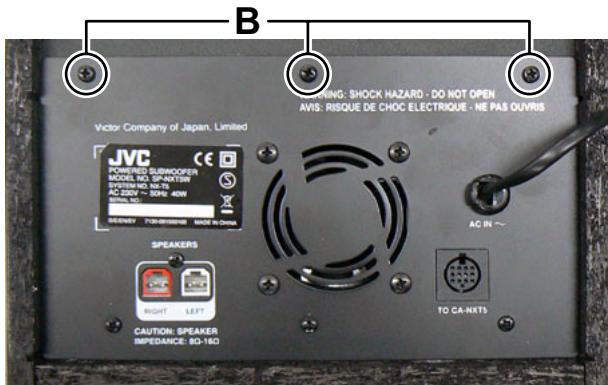

Fig.2
(2) Remove the three screws **B** attaching the Power amp unit. (See Fig.2)